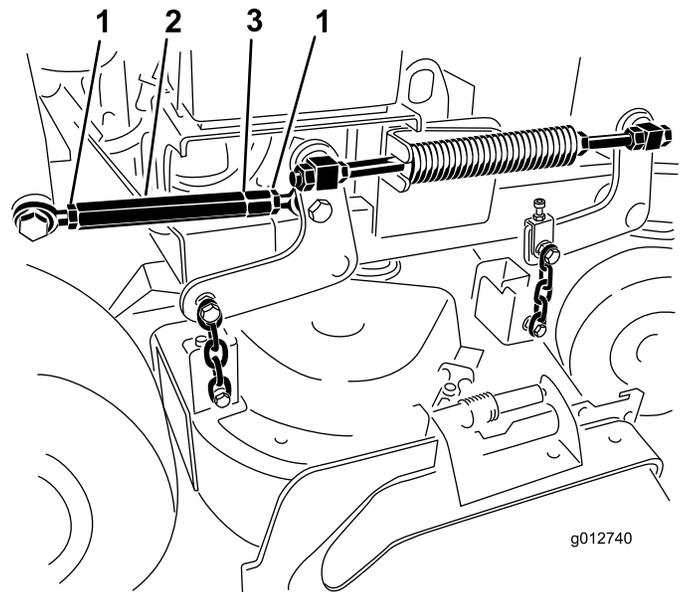

Figure 88
7. Loosen the jam nuts at both ends of the turnbuckle (Figure 88).
Note: The end of the turnbuckle with the groove machined in it has left hand threads (Figure 88).